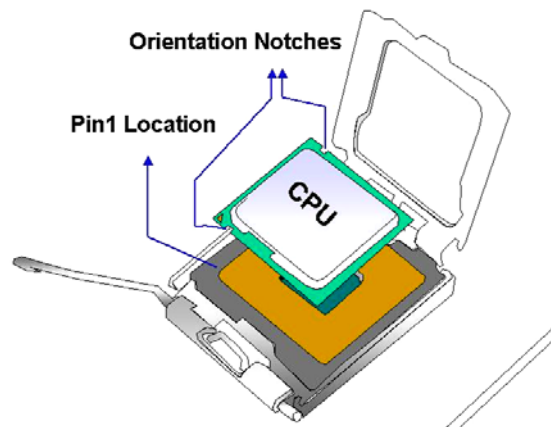

Figure 5-4: Insert the LGA775 CPU
Step 7: Insert the CPU. Gently insert the CPU into the socket. If the CPU pins are properly aligned, the CPU should slide into the CPU socket smoothly. See **Figure 5-4**.